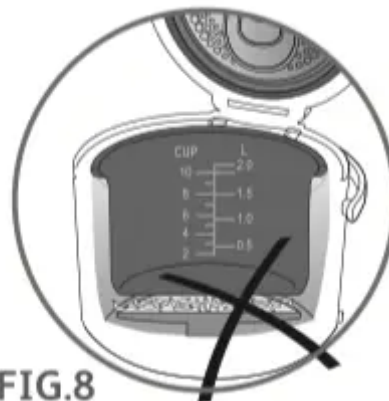

FIG.8
- Carefully wipe the outside of the bowl (especially the bottom). Make sure that there are no foreign residues or liquid underneath the bowl and on the heating plate – Fig.8.